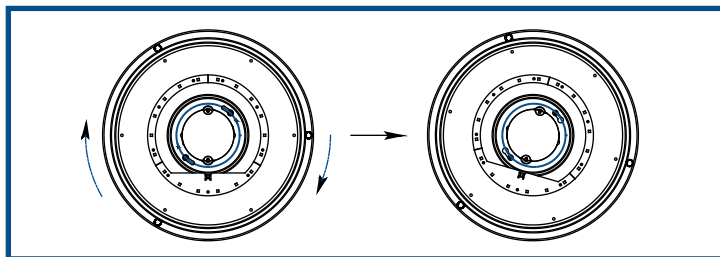

FIG. 3
4. Tuck all the wires and connections into the Junction Box. Align the Mounting Hole on the fixture to the driven screws and put in, then twist the fixture clockwise. Use the screw driver to adjust the screws outside length and fix the fixture on the wall. (FIG. 3)